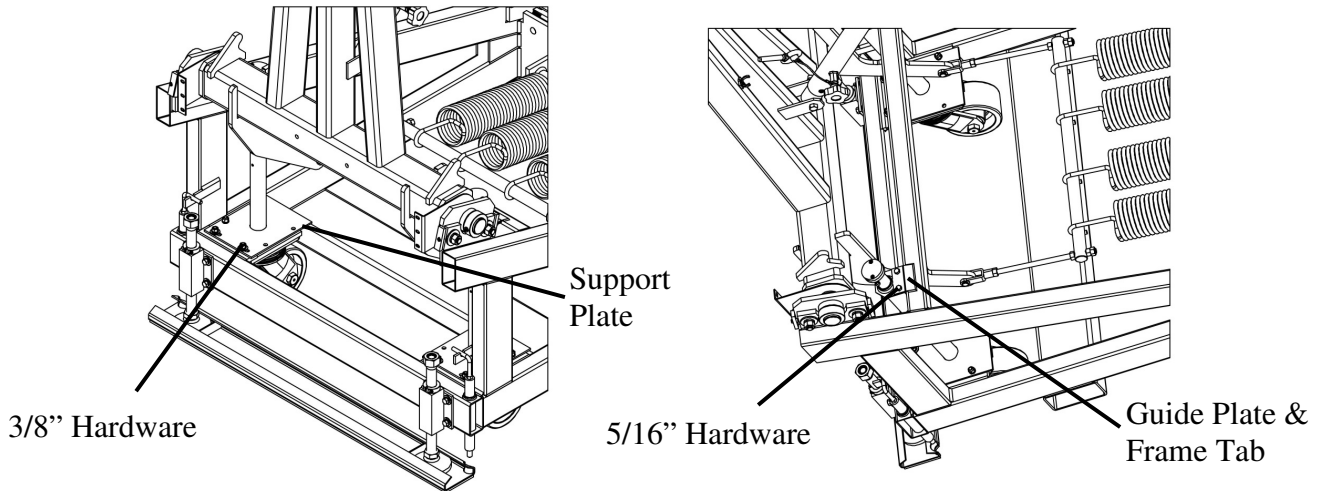

Figure 2
11. Set the wheel lift riser assembly into the unit making sure the support plate is on top of the mounting bars welded to the frame. Refer to Figure 2